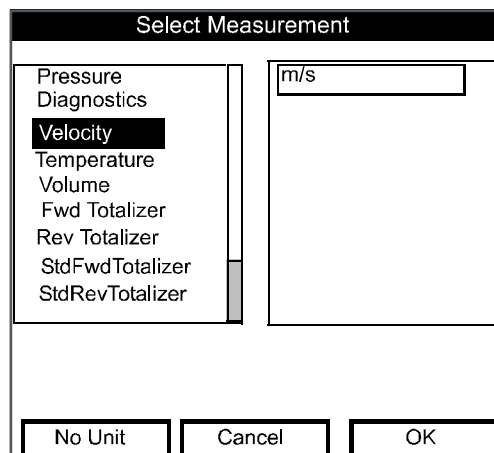

Figure 119: The Select Measurement Window
1. Press **[ENTER]** to open the first entry. The Select Measurement window opens, as shown in *Figure 119*.